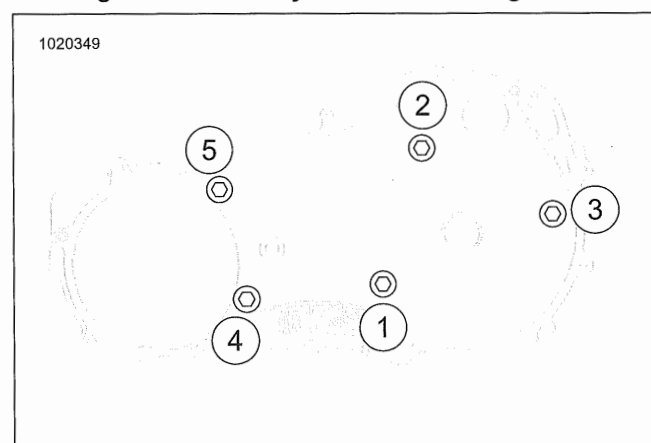

Figure 5-29. Sealing Screw Tightening Sequence
- b. See Figure 5-29. Tighten in sequence shown.